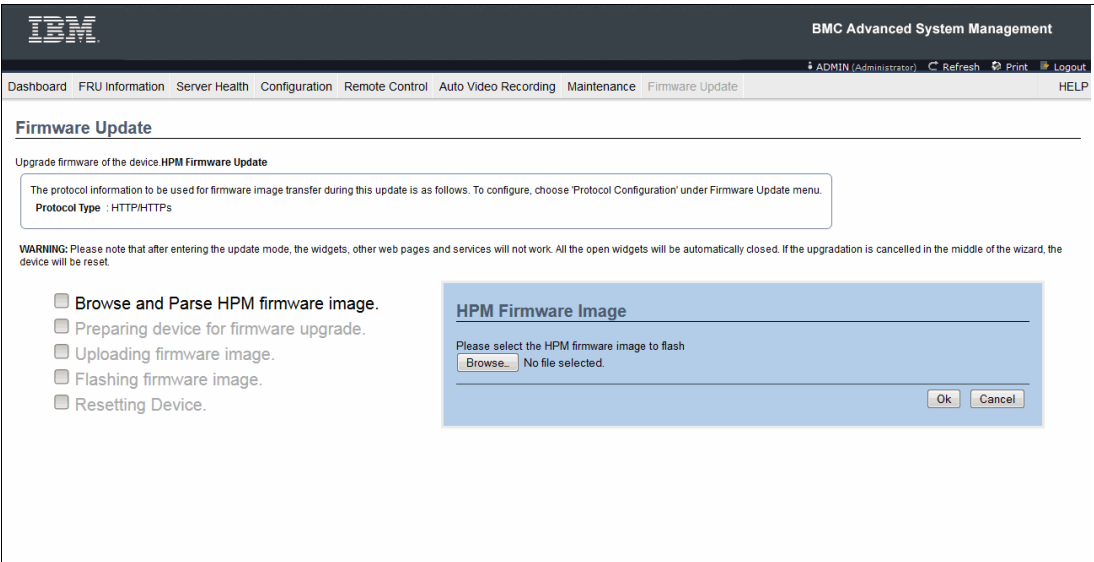

Figure 2-5 Select the firmware image
5. Select the firmware update file from your local disk by selecting **Browse and Parse HPM firmware page**, clicking **Browse**, and selecting the file, as shown in Figure 2-5,